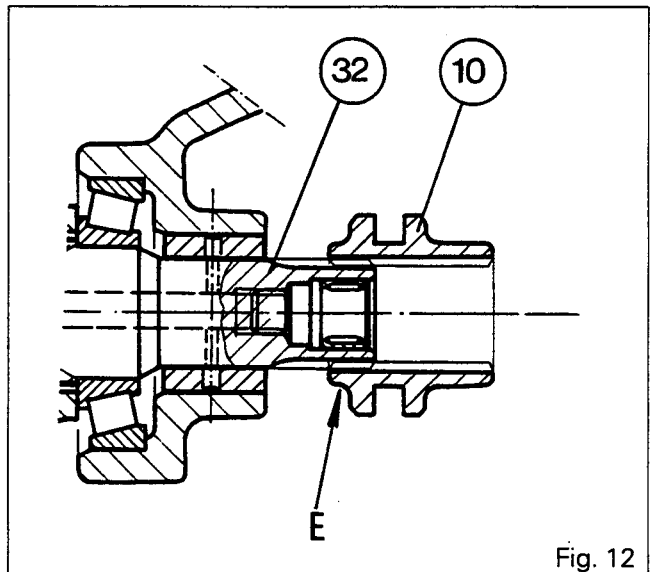

Fig. 12
**Note : Position the small shoulder E towards the shaft (32) (Fig. 12).**